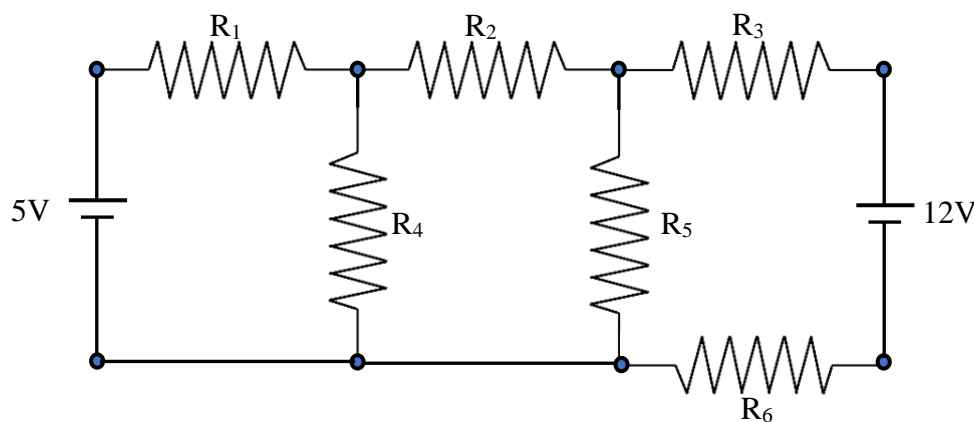

Figure 6.1: Superposition Theorem
1. Connect the components on the bread current as shown in the figure 6.1.